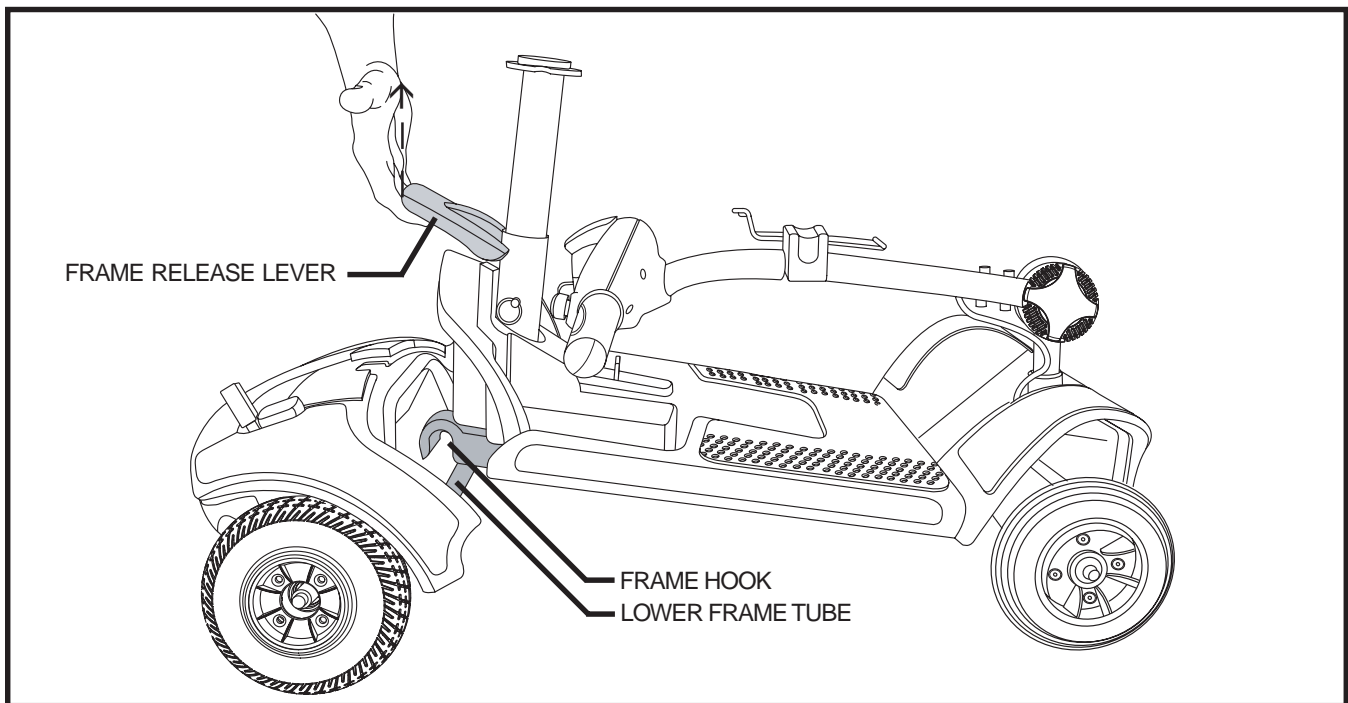

Figure 19. Frame Separation
2. Lift up on the frame release lever until the frame hooks are no longer resting on the lower frame tube. See **figure 19**.
3. Slowly separate the two sections of the Travel Scooter. See **figure 19**.
NOTE: Before attempting assembly, tilt the rear half of the Travel Scooter slightly back on the anti tip wheels as show in figure 19.
1. Use the frame release lever to lift the front section as you align the frame hooks of the front section with the lower frame tube of the rear section. **See figure19.**